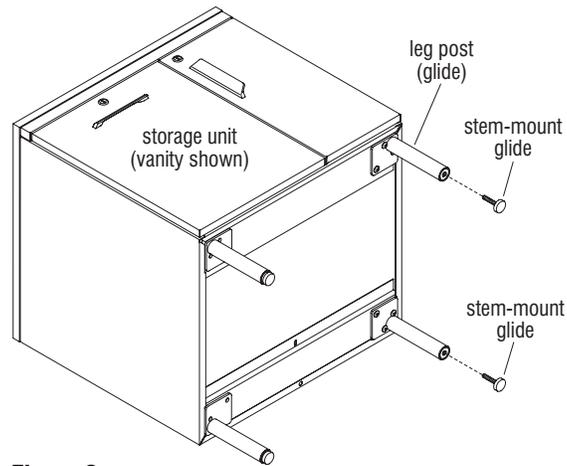

Figure 2
1. Thread the stem of each glide into the threaded insert at the underside of each leg post. Twist the glides in clock-wise, fully to the bottom of the leg post. This will allow level adjustment of the storage unit if required when placed in its final location (Figure 2 & Detail B).